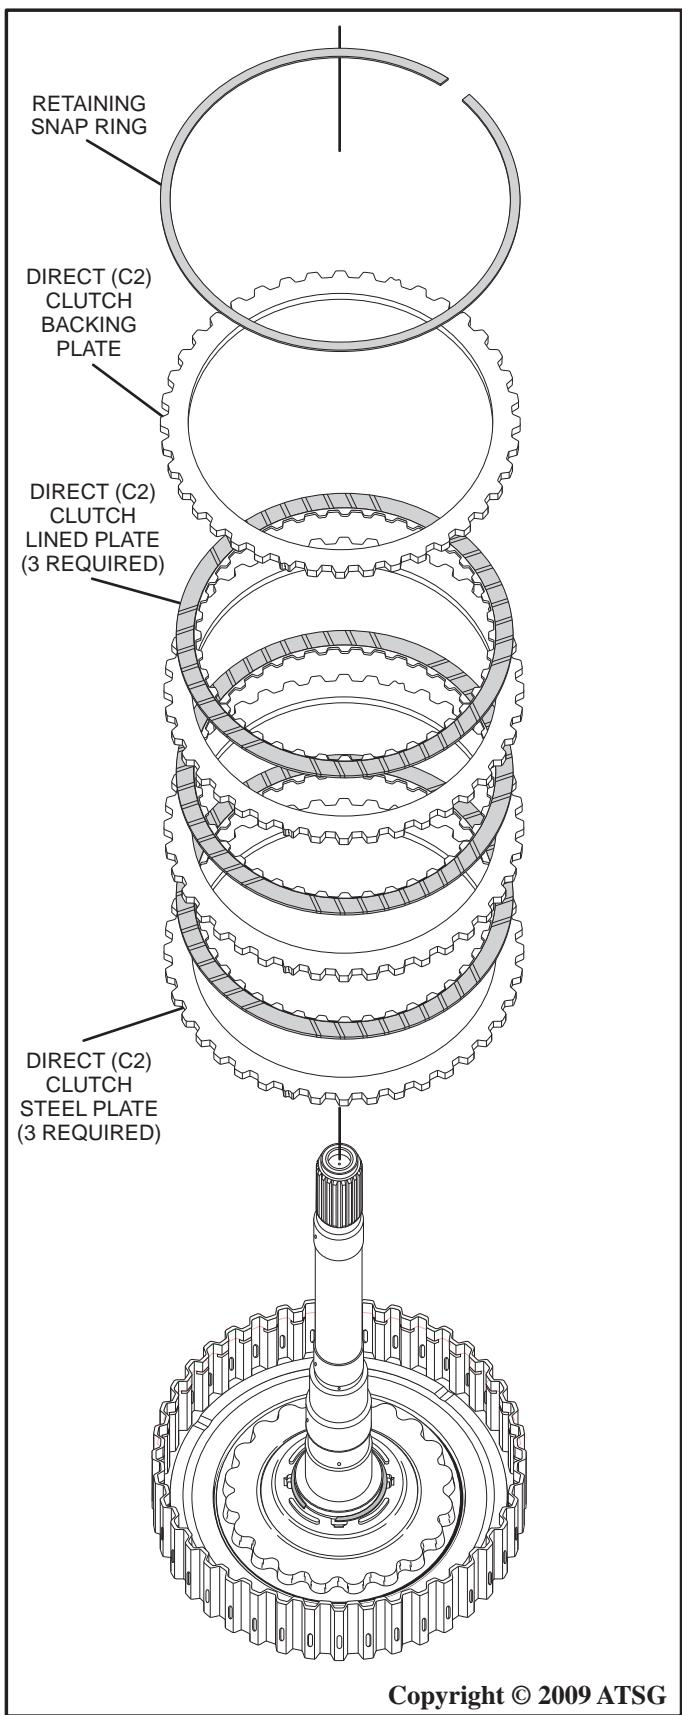

Figure 97
- Install the direct (C2) clutch plates beginning with a steel plate, then alternating frictions and steels until there are three steel and three lined plates installed into the drum housing as shown in Figure 97.
- Install the direct (C2) clutch backing plate into the drum housing as shown in Figure 97.
- Install the retaining snap ring into the drum housing as shown in Figure 97.